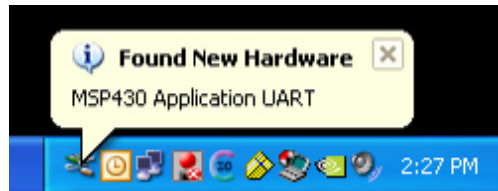

Figure 15. Windows XP Hardware Recognition for MSP430 Application UART
5. Windows will recognize another new hardware driver to be installed called **MSP430 Application UART** (see Figure 15).